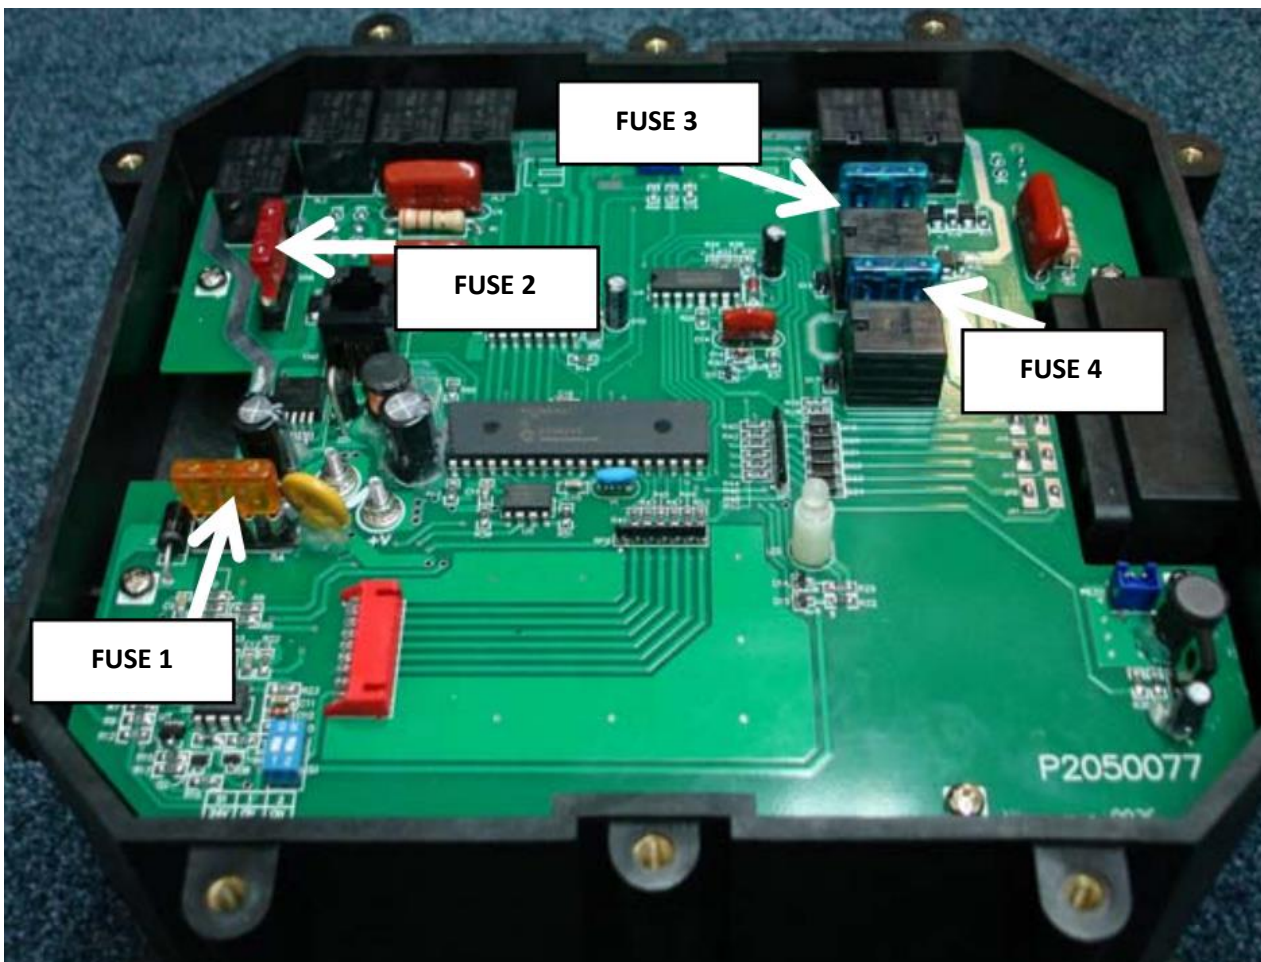

Figure 10: Fuse Position in the Control Unit
5. Carefully locate (See Figure 10) and remove the blown fuse and replace it